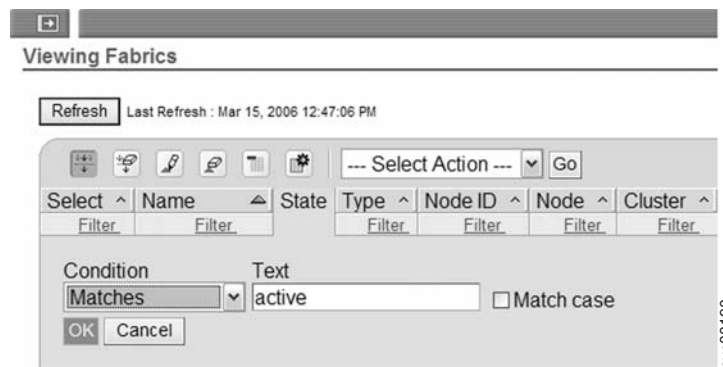

Figure 13. Displaying all active devices
- From the **Condition** menu, select **Matches** and click **OK**. See Figure 13.